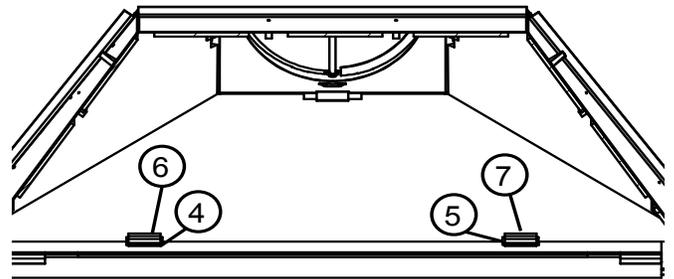

FIG.2
- B.** Remove screws from lower brackets and remove front lower panel. Then remove screws from upper brackets and remove front upper panel **(FIG.2)**
**E.** Slide front upper panel into smoke chamber then front lower panel and install brackets. **(FIG.2)**